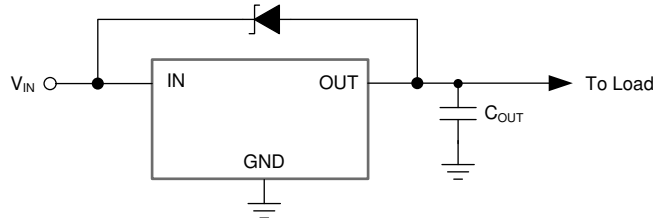

图 8-10. Zener Diode Placed from IN to OUT
- Place a zener diode from IN to OUT to provide a small positive dc bias on the output when the input is supplied to the device, as shown in 图 8-10.